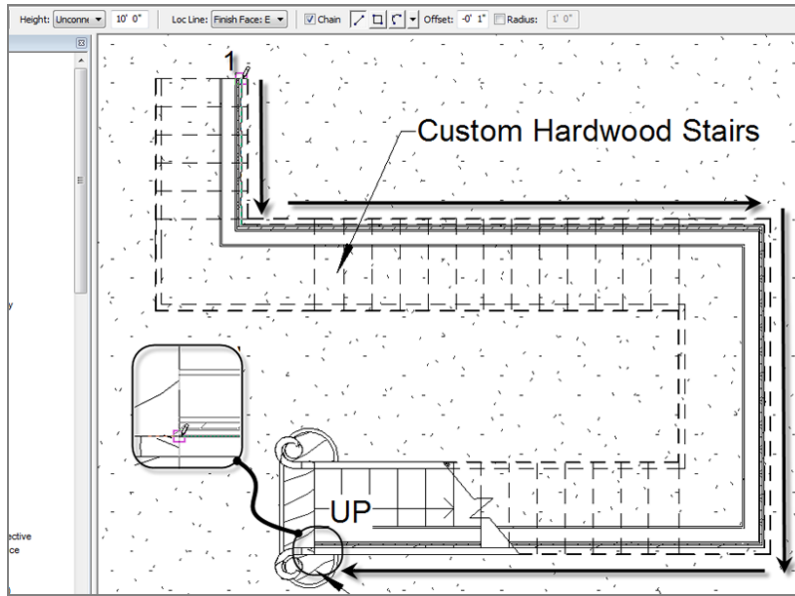

FIGURE 16.11 Placing the wall clockwise in the model
34. Draw the wall by snapping to the inside of the stringers, as shown in Figure 16.11. You want to go in a clockwise direction, so start with the northern part of the staircase, marked 1 in Figure 16.11.